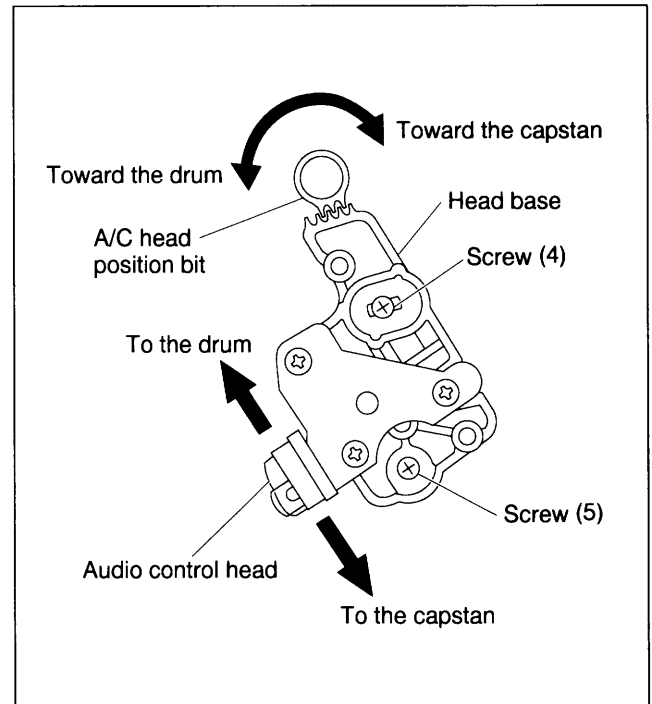

Fig. 2-4-6
- (1) Connect the oscilloscope to TP106(PB FM/COL) of the main board assembly and to TP111(D.FF) of the main board assembly for external sync connection.
- (2) Play the alignment tape (SP) and observe the FM waveforms.
- (3) Press the channel buttons (▲) and (▼) buttons simultaneously during playback to enter the manual tracking mode (This also brings tracking to the center.)
- (4) Loosen screws (4) and (5) so that the A/C head position bit is set as indicated in Fig.2-4-6.
- (5) Turn the A/C head position and first move the audio control head fully up to the capstan head. Then gradually return the audio control head toward the drum and stop it where the FM waveform reaches its maximum for the first time. Then tighten screw (4) temporarily.
- (6) Then play the alignment tape (LP).
- (7) Press the channel buttons (▲) and (▼) buttons simultaneously during playback to enter the manual tracking mode (This also brings the tracking to the center.)
- (8) Perform the tracking operation and make sure that the FM waveform is at its maximum.
- (9) If it is not at maximum, loosen the temporarily tightened screw (4) and turn the A/C head position bit to bring the audio control head to a position, around where the waveform reaches its maximum for the first time. Then tighten screws (4) and (5).